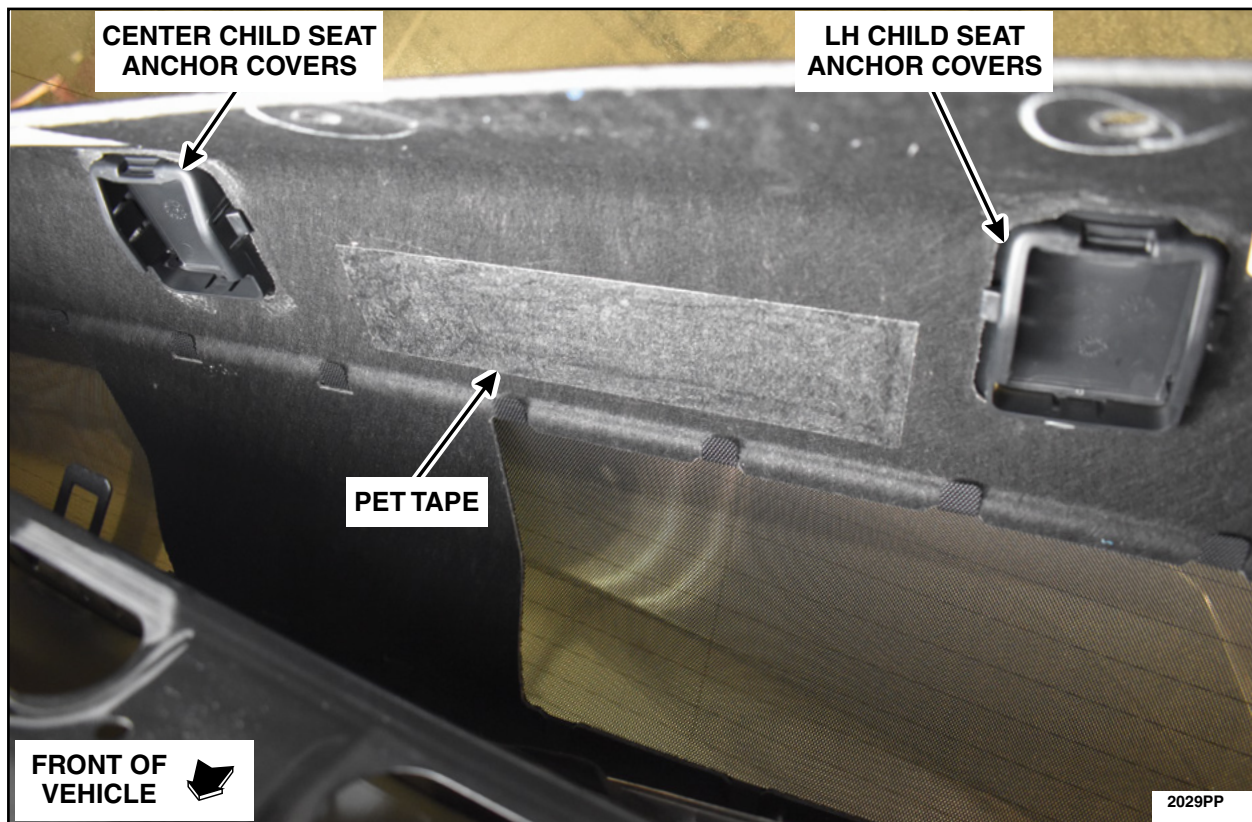

FIGURE 5
6. Install the supplied PET tape on the underside of the parcel shelf and between the center and LH child seat anchor covers. See Figure 5.